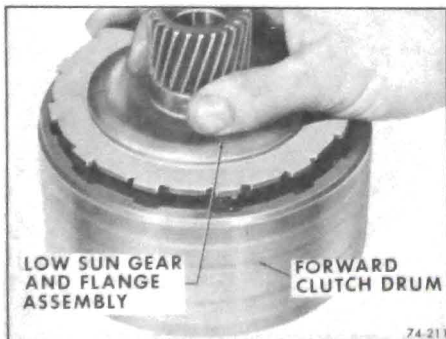

Figure 74-211
2. Remove low sun gear and flange assembly. See Figure 74-211.